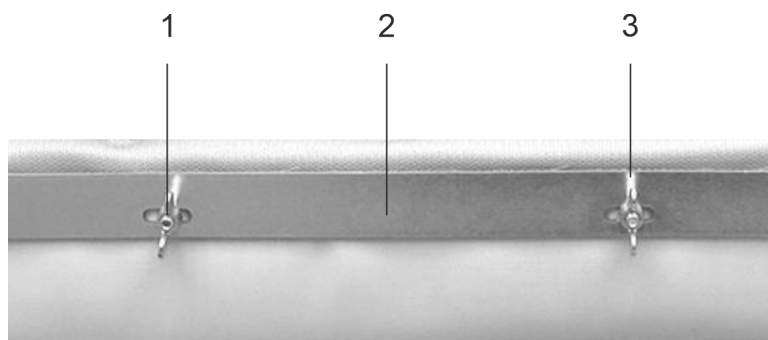

Fig. 25: Changing of pressing covers (head buck BRI-600/202)
7. ➤ **see Fig. 25**
16.▶ see Fig. 25